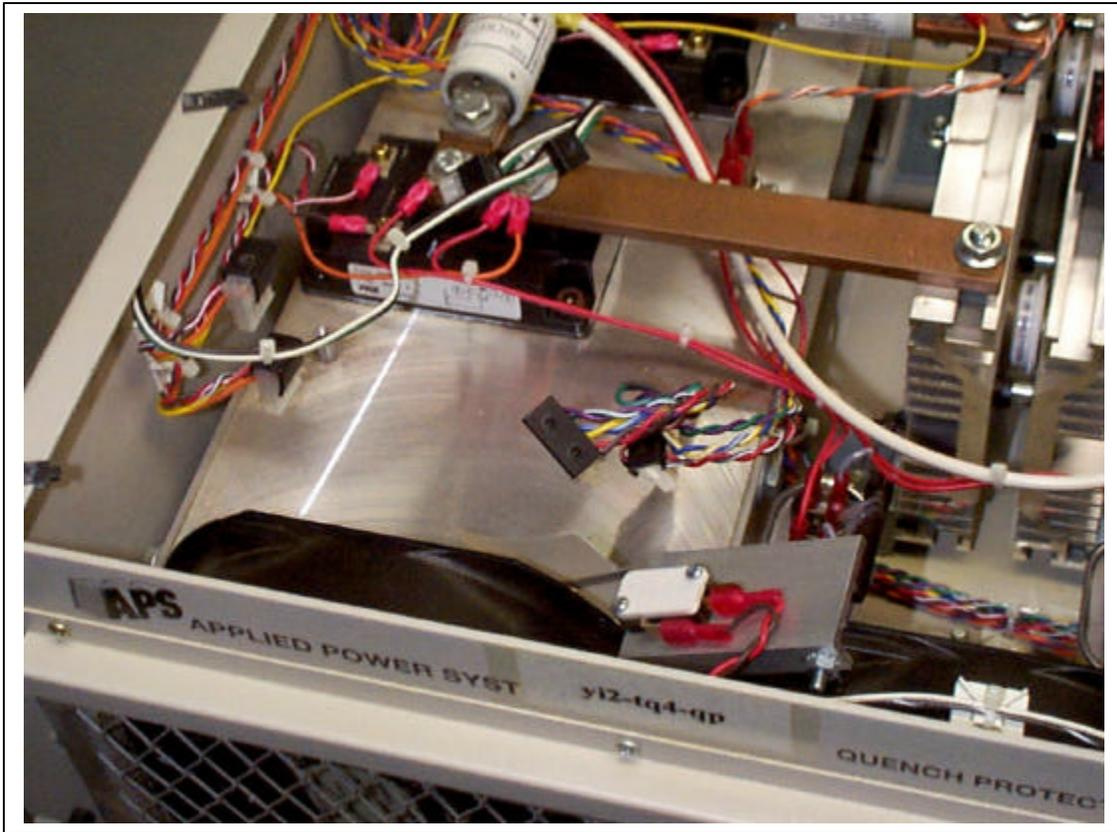

Figure 9
12. Now remove the 4 standoffs and the connections to the bottom IGBT board and then remove the bottom IGBT board. It should now look like Figure 9.